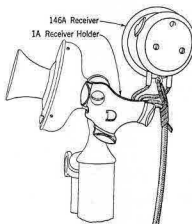

Fig. 1.—1A Receiver Holder
2.01 The 1A receiver holder should be installed on desk stands by using the same bolt and screw employed for fastening the transmitter to the desk stand as shown in Fig. 1.